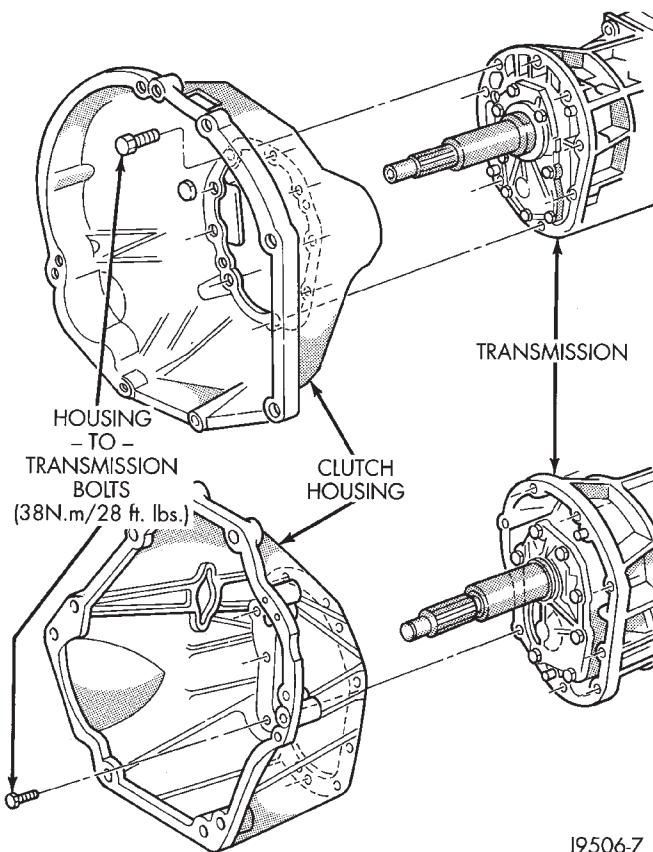

Fig. 10 Clutch Housing
(24) Remove clutch housing brace rod.
(25) Remove clutch housing-to-engine bolts.
(26) Pull transmission jack rearward until input shaft clears clutch. Then slide transmission out from under vehicle.
(27) Remove clutch release bearing, release fork, and retainer clip.
(28) Remove clutch housing from transmission (Fig. 10).
(1) Install clutch housing on transmission. Tighten housing bolts to 37 N·m (27 ft. lbs.) torque.
(2) Lubricate contact surfaces of release fork pivot ball stud and release fork with high temp grease.
(3) Install release bearing, fork, and retainer clip.
(4) Position and secure transmission on transmission jack.
(5) Lightly lubricate pilot bearing and transmission input shaft splines with Mopar® high temp grease.
(6) Raise transmission and align transmission input shaft and clutch disc splines. Then slide transmission into place.
(7) Install and tighten clutch housing-to-engine bolts to 38 N·m (28 ft. lbs.) torque (Fig. 10). **Be sure the housing is properly seated on engine block before tightening bolts.**
(8) Install clutch housing brace rod.
(9) Lower transmission approximately 7-8 cm (3 in.) for access to shift tower. Be sure transmission is in first or third gear.
(10) Reach up and around transmission and insert shift lever in shift tower. Press lever retainer downward and turn it clockwise to lock it in place. Then install lever dust boot on shift tower.